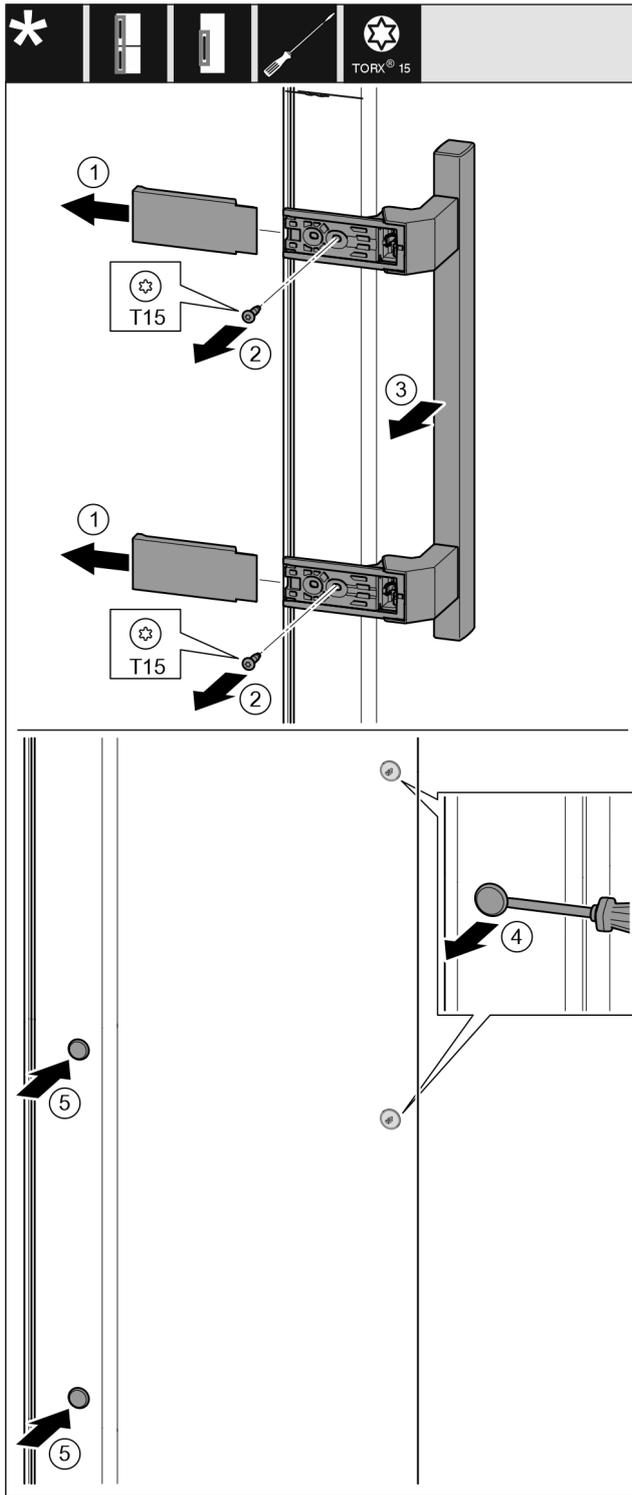

Fig. 17
- ▶ Pull off the cover. Fig. 17 (1)
- ▶ Unscrew the screws with a Torx 15 screwdriver. Fig. 17 (2)
- ▶ Take off the handle. Fig. 17 (3)
- ▶ Carefully lift the side plug with a slotted screwdriver and pull it out. Fig. 17 (4)
- ▶ Replace the plug on the other side. Fig. 17 (5)